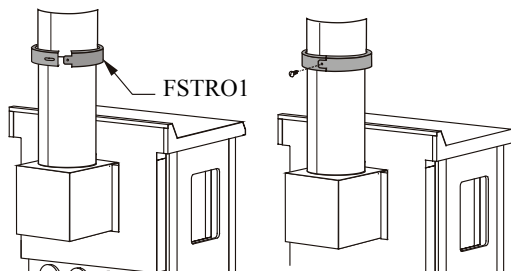

Figure 15. Installing the decorative brass rings.
8. Cover each joint in the stove pipes with a brass decorator ring. The rings should cover the joint as well as the sheet metal screws. Attach the ring using the black 3/8" screws provided. Make sure the screw is facing the back of the stove. See Figure 15.
- Cover each joint in the stove pipes with a brass decorator ring. The rings should cover the joint as well as the sheet metal screws. Attach the ring using the black 3/8" screws provided. Make sure the screw is facing the back of the stove. See Figure 15.